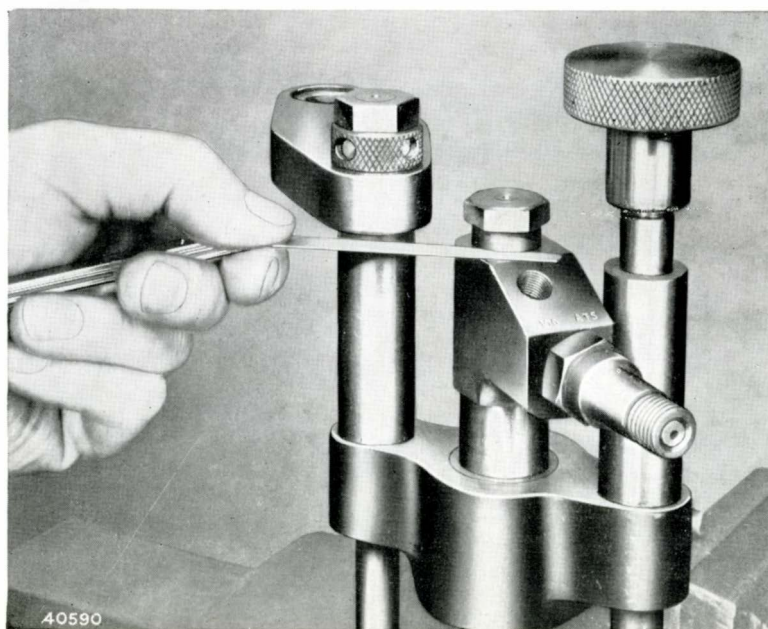

FIG. 69. CHECKING THE NEEDLE VALVE LIFT
5. Check that the needle lift is between .016 in. and .018 in. (.4064 mm. to .4572 mm.). To do this remove the injector end plug and valve spring. Insert a .025 in. (.6350 mm.) thick shim on top of the needle valve lift distance washer and replace the end plug. Screw down the plug by hand and measure the gap between the end plug and injector body, using a set of feeler gauges, Fig. 69.